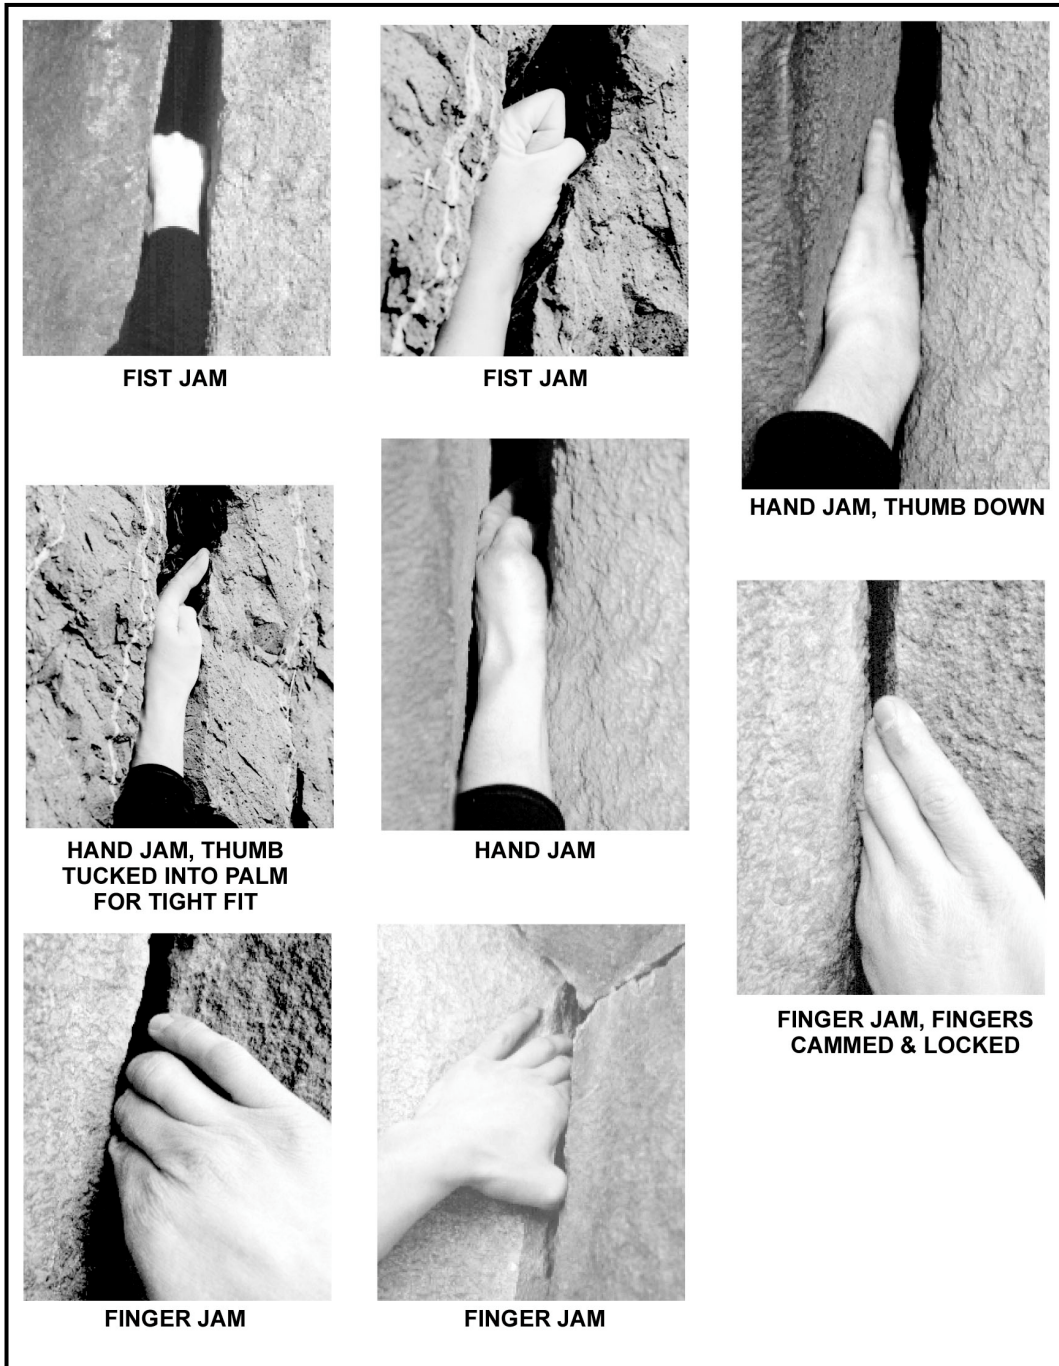

Figure 6-11. Examples of jam holds.
(4) **Jam Holds.** Like foot jams, the fingers and hands can be wedged or cammed into a crack so they resist a downward or outward pull. Jamming with the fingers and hands can be painful and may cause minor cuts and abrasions to tender skin. Cotton tape can be used to protect the fingertips, knuckles, and the back of the hand; however, prolonged jamming technique requiring hand taping should be avoided. Tape also adds friction to the hand in jammed position. (Figure 6-11, page 6-18, shows examples of jam holds.)